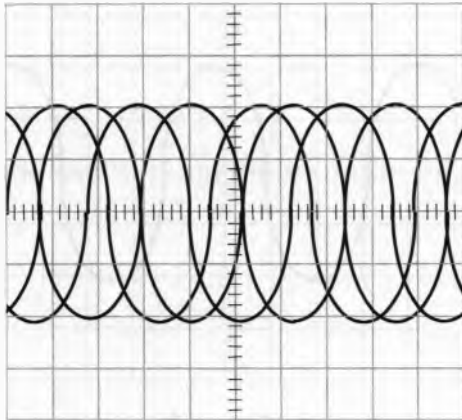
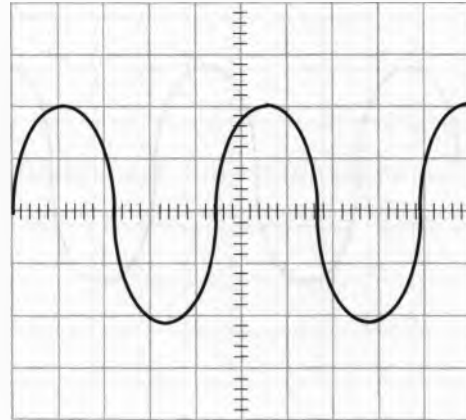

Figure 11
Figure 12
8. What CRO control can be adjusted when its display looks like Figure 11 and should look like Figure 12?